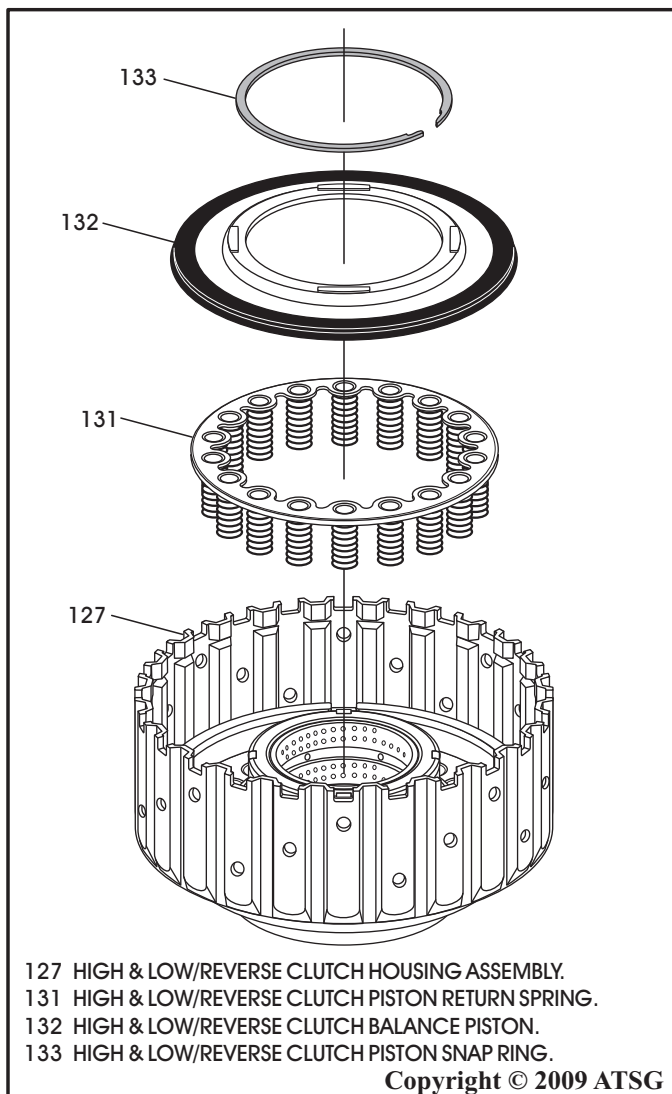

Figure 134
7. Install the return spring assembly and balance piston into the high and low/reverse clutch housing, as shown in Figure 134.
8. Compress balance piston and install the snap ring, as shown in Figure 134, and ensure snap ring is fully seated.